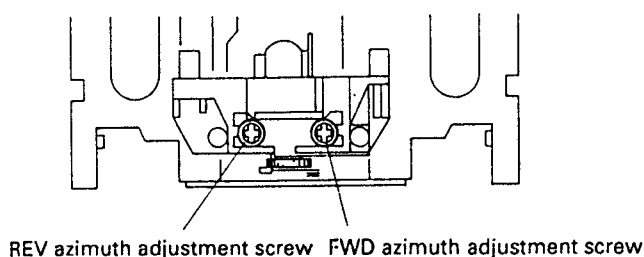
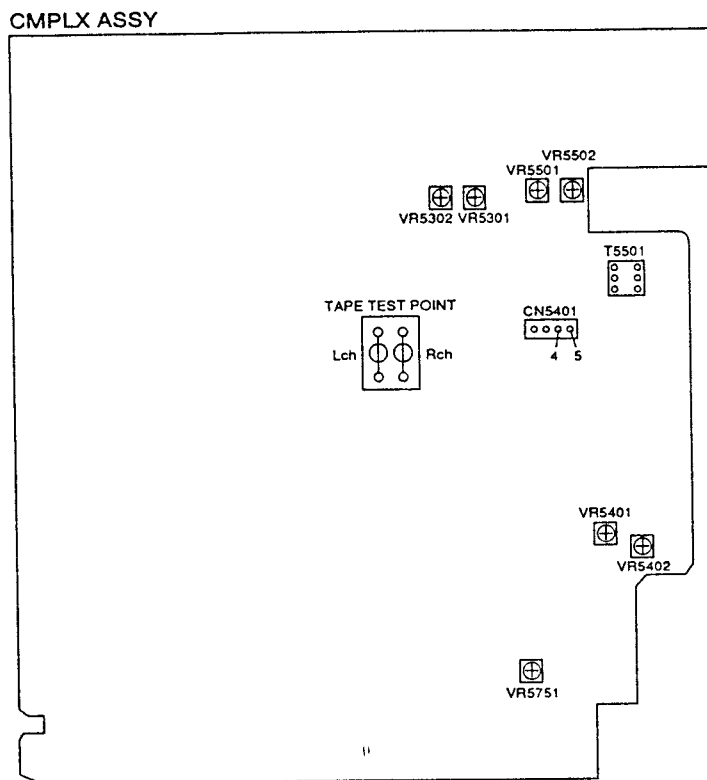

Fig. 2-2 Head azimuth adjustment
Fig. 2-4 Adjusting Points
• Adjustment points and test points are shown in Fig. 2-2 and Fig. 2-4.